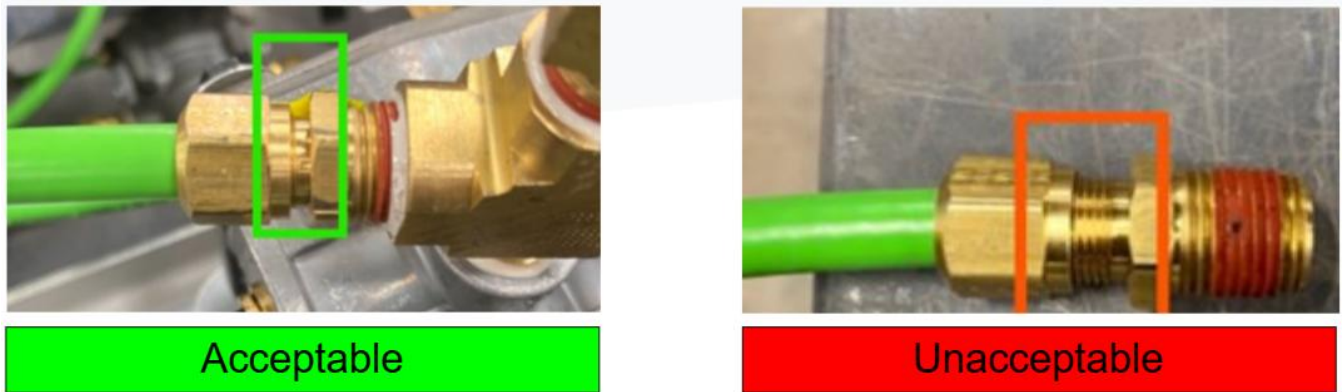

Figure 2: Thread Count Standard
5. Visual inspection: Verify the visible thread engagement between the fitting nut and fitting body. A maximum of one (1) thread should be exposed. Any condition exceeding one visible thread is considered non-conforming as shown in Figure 2.